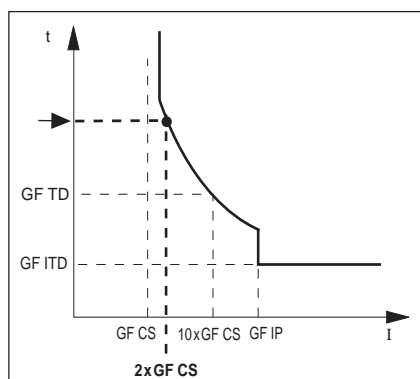

Figure 75: Curve type check ( $2 \times \text{GF CS}$ )
**Curve Type Check ( $2 \times \text{“GF CS”}$ )** To check the curve type ( $2 \times \text{“GF CS”}$ ), measure the tripping time for the current corresponding to  $2 \times \text{“GF CS.”}$  Expected accuracy (for “GF CS” >  $0.2 \times \text{“GF CT”}$ ) is  $\pm 12.5\%$ . See figure 75.